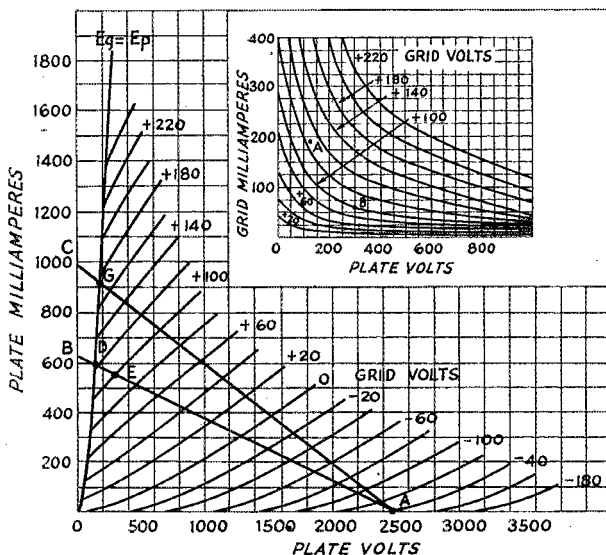

Fig. 1 — $I_p E_p$ and $I_g E_p$ characteristic curves for the Amperex HF200 tube upon which calculations discussed in the text are based.
5) The peak grid current per tube is found on the $I_g E_p$ curves shown in Fig. 1.